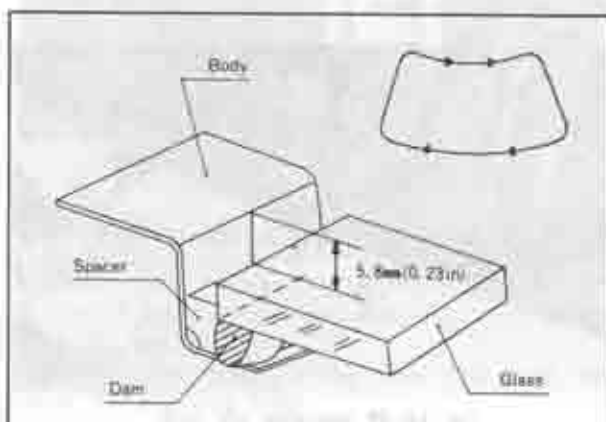

Fig. 14-32 Adjusting clearance
8. Firmly press the glass against the sealant with hand pressure. Then, inspect the appearance of the sealant through the glass. A dull spot indicates an area where the sealant does not contact glass surface. Additional hand pressure will seal most areas. When installing the glass, 5.8 mm (0.23 in) clearance should exist between the body and the glass. Check the clearance at the four positions shown in Fig. 14-32.